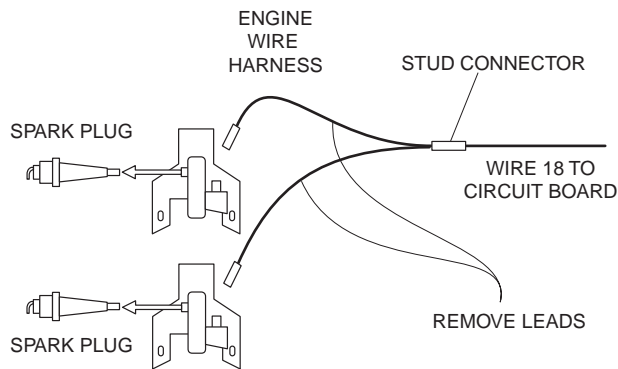

Figure 26. Engine Ground Harness
11. Disconnect the engine wire harness from the ignition magnetos (Figure 26).